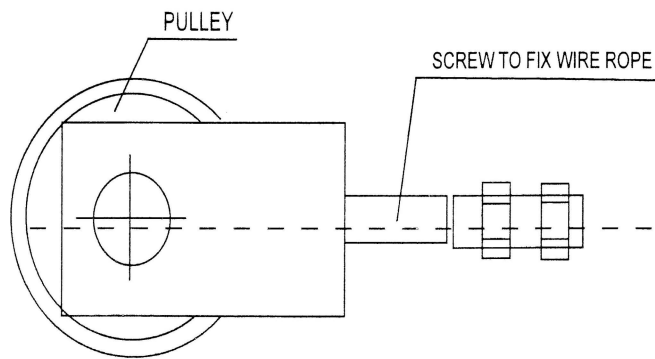

Fig. 2b
- 3.3.1 Wind the wire rope on the “Drum” 3 turns as show Fig.2b. Tightening